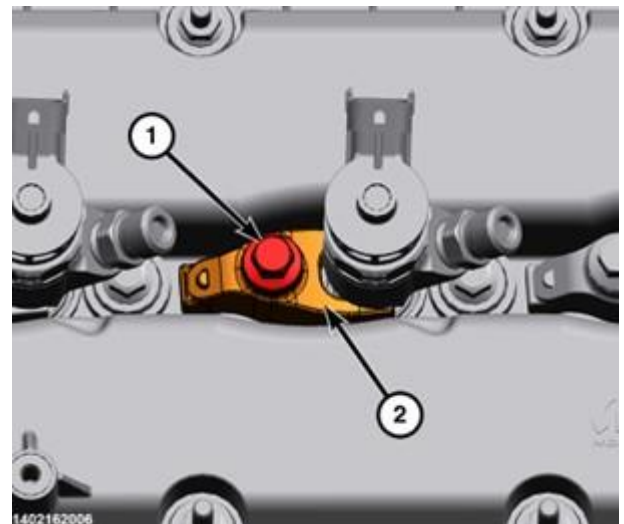

Figure 144– Fuel Injector Bolt and Clamp
89. Install the fuel injector clamp (2) and tighten the bolt (1) to 33 N-m (24 ft. lbs.) (Figure 144).